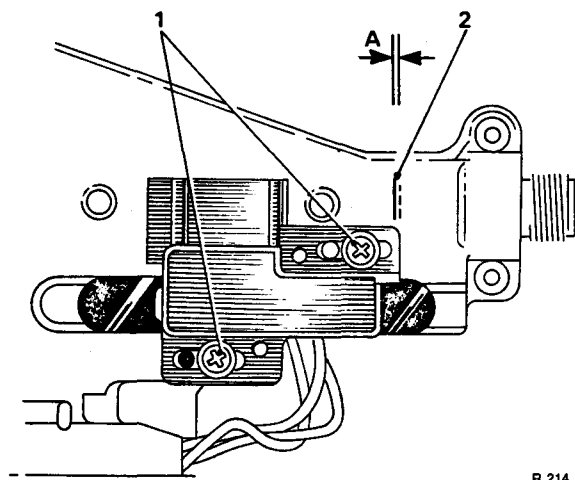

FIG. M77 PARKING SWITCH ADJUSTMENT
2. Rotate the motor until the parking switch is accessible (*see Fig. M77*). Tighten the rack tube nut. This will allow the motor to be operated and also permit adjustment of the switch.
4. Carefully move the limit switch outwards to a position where the motor will reverse and move the blades to the correct parking position. Scribe a line on the motor casing at this point as shown in Figure M77.